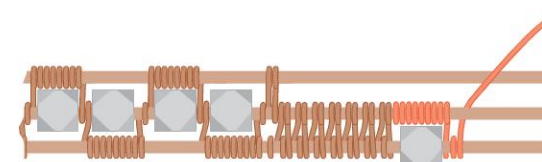

figure 3
- 14 Remove the end bead from Frame Wire 2 and place it on Frame Wire 1. Coil Frame Wire 2 the length of the bead, then coil Frame Wire 1 one time (Figure 3—red wire).